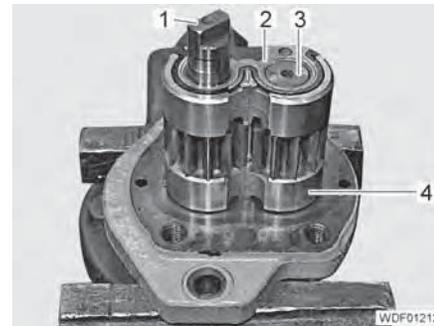

Fig. 159 Internal configuration
- Remove the outer bearing (Fig. 159,2) and place it aside.
- Remove the gears (Fig. 159,1 and 3) and place them aside.
- Remove the inner bearing (Fig. 159,4) and place it aside.
- Place the inner bearing (Fig. 159,4) onto the flange.
- Insert the gear wheel (Fig. 159,1) through the bearing and the flange.
- Insert the gear wheel (Fig. 159,3) into the inner bearing.
- Connect the outer bearing (Fig. 159,2) onto the gear wheels.